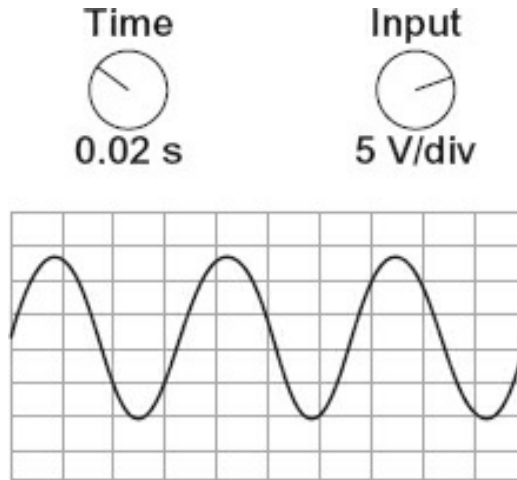

Figure R3-1.
1. Given the signals on the graticules in Figures R3-1, R3-2, and R3-3, determine the approximate voltages and frequencies displayed.